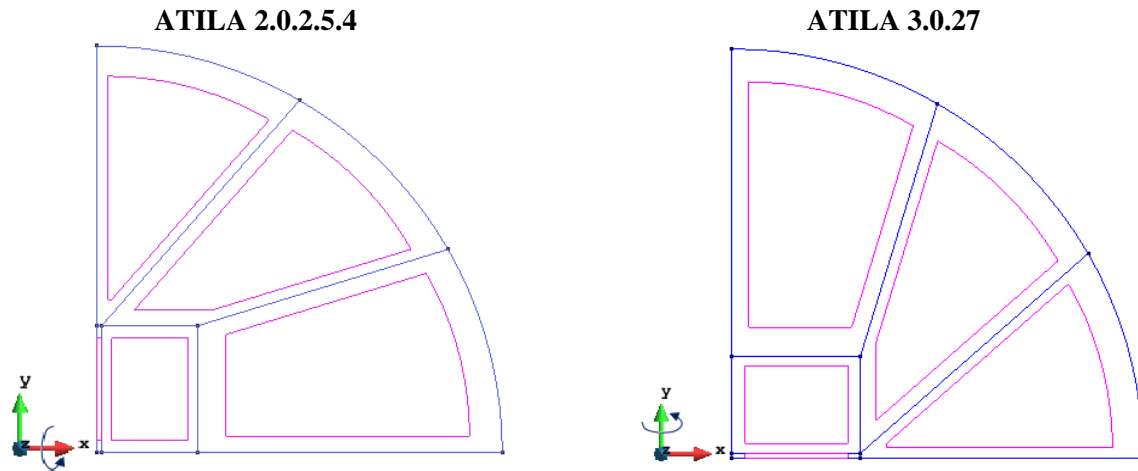

Figure C5.10. Surfaces Created.
Click **Geometry** → **Create** → **Nurbs Surface** → **Automatic** → **Number of lines (4)** → **OK** → **Cancel** or (✖). The result is shown in Figure C5.10.